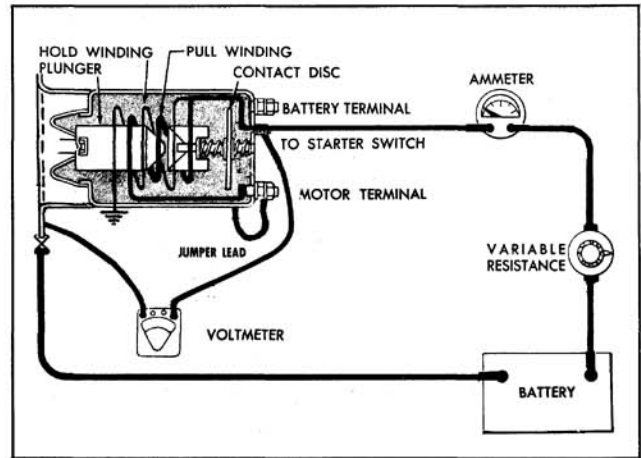

Fig. 13-55 Checking Solenoid Windings
- e. Check the current draw of the solenoid winding as follows: (Fig. 13-55)